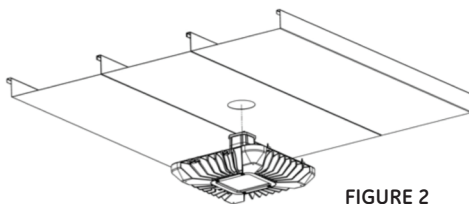

FIGURE 2
- B. Lift the luminaire to the 4" open hole. Pass wires or cables through the ceiling. Do not pinch or trap wires between luminaire and ceiling. (See Fig.2)